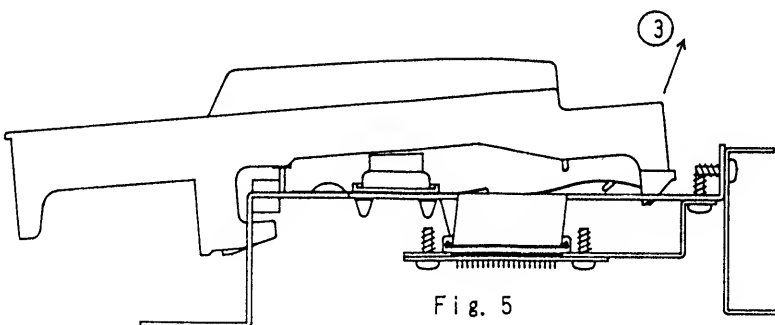

Fig. 5
3. Taking care not to distort the spring, lift the key in the direction of ③ as shown in Fig.5.